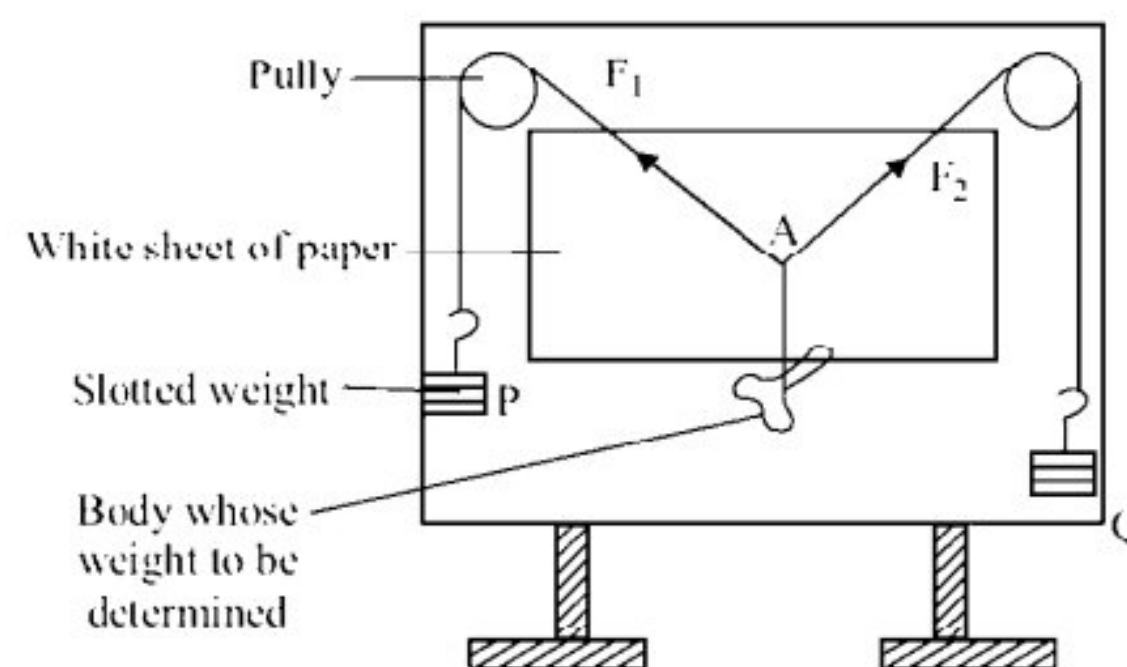

Fig. 4.4: Gravesand's apparatus
- i) Set up the Gravesand's apparatus with its-board vertical and stable on a rigid base. Check this with the help of a plumb line (Fig. 4.4)